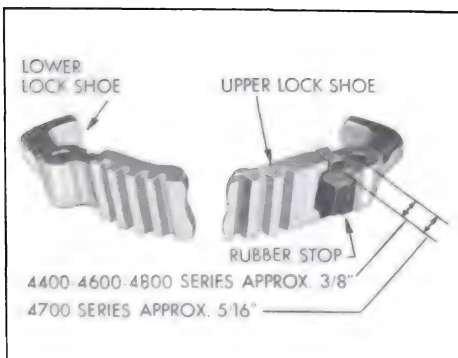

Figure 8-85—Lock Shoes
1. Drive lock shoe pins out of actuator and remove shoes and springs. The upper shoe has a rubber stop on it. See Figure 8-85.